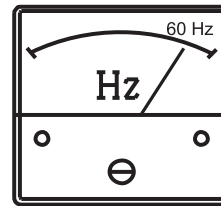

Figure 47. Frequency Meter
5. The generator's frequency meter (Figure 47) should be displaying the 60-cycle output frequency in **HERTZ**.